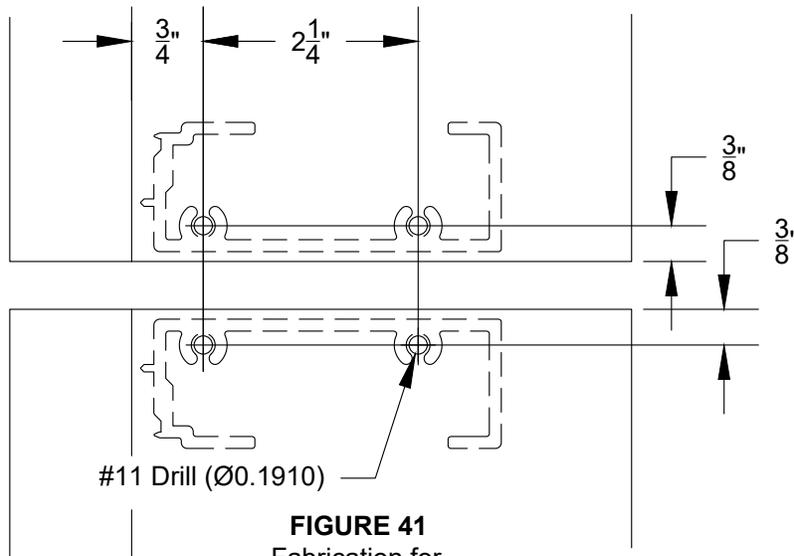
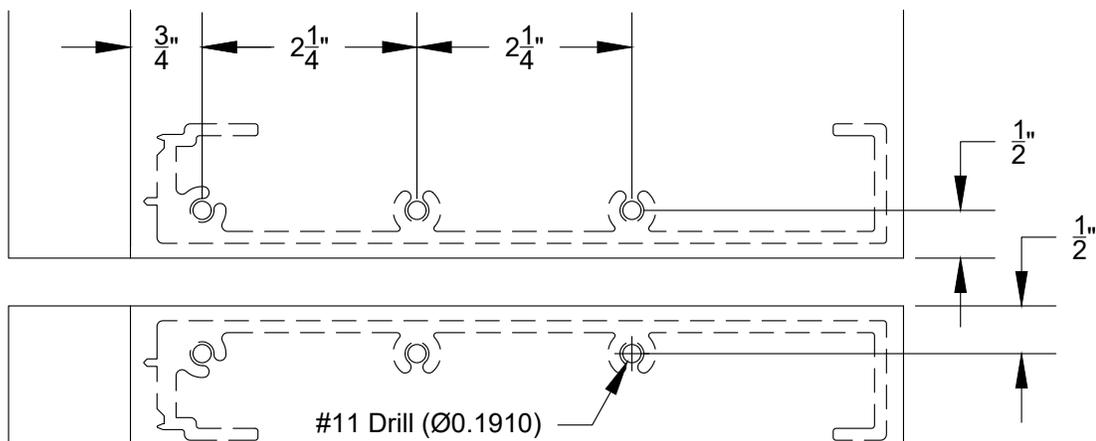

FIGURE 41
FIGURE 42
- 3.25 When using the WW-436, WW-437, WW-536, WW-537 horizontals for the expansion horizontal connection fabricate top and bottom of mullion as shown in FIGURE 41. If using WW-836 & WW-837 fabricate per FIGURE 42. Note that the dimension from the end of mullions to hole center line is different in these two drawings.